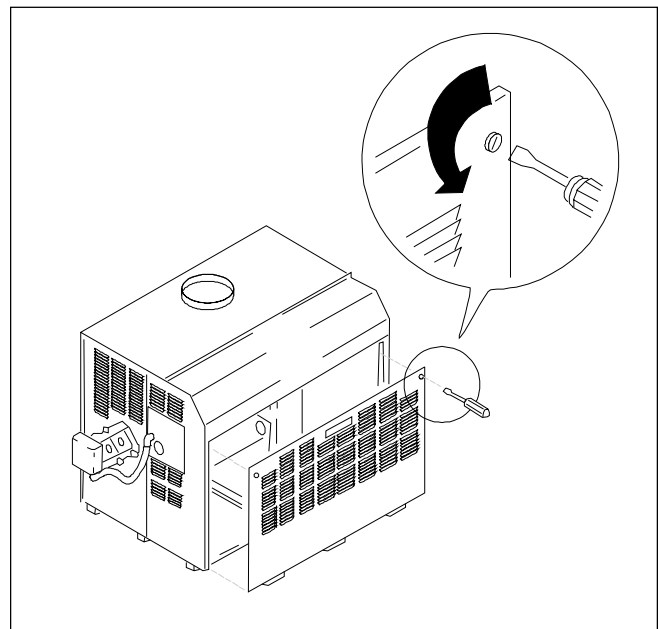

Figure 21. Lower Front Panel Removal.
1. Remove the lower front panel (see Figure 21).